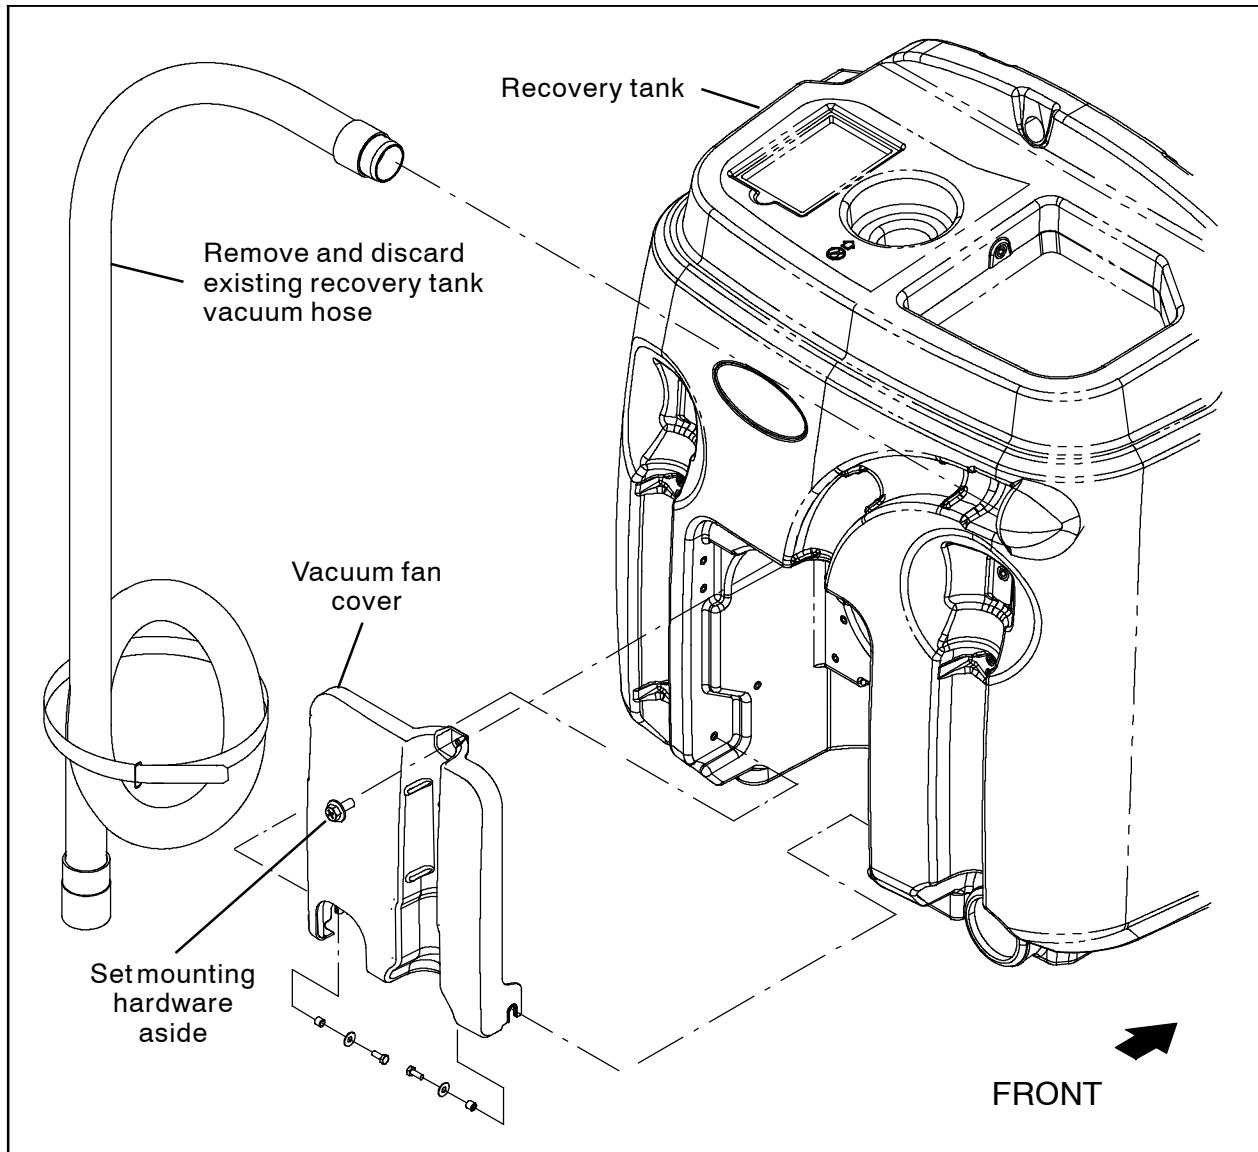

FIG. 1
1. Remove the existing recovery tank vacuum hose from the machine. Discard the vacuum hose. (Fig. 1)
2. Remove the vacuum fan cover from the machine. Set the mounting hardware aside. (Fig. 1)